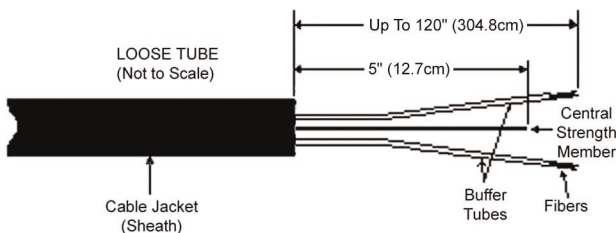

Figure 5. Loose Tube Cable Preparation
5.0 Cable Preparation (Refer to figure 5 + 6)